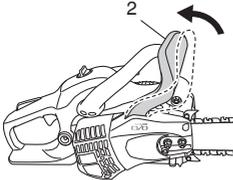

Fig. 2
1. Pull the front hand guard (2) toward the front handle to check that the chain brake is disengaged. (Fig. 2)
Chain brake operation (Fig. 2, 13)
Starting the cold engine (Fig. 2, 13, 15-18)